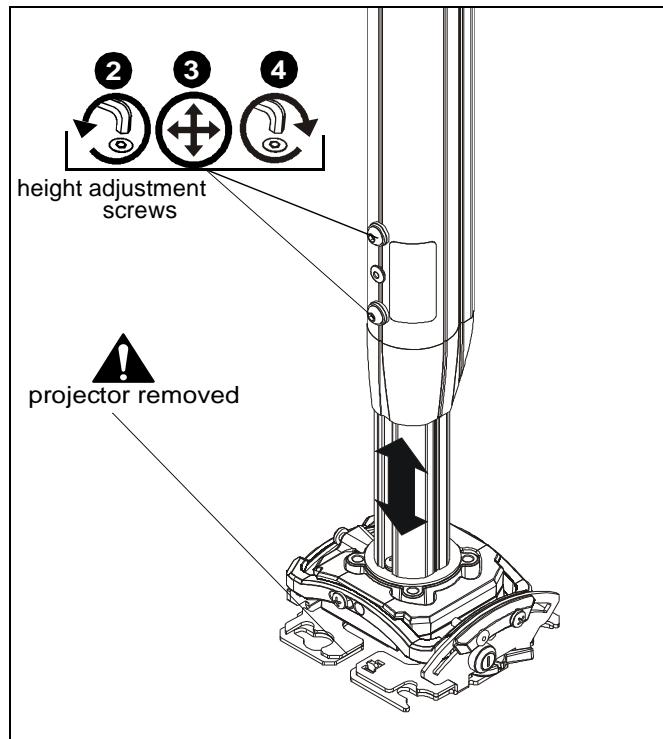

Figure 20
2. Loosen height adjustment screws. (See Figure 20)
3. While supporting the weight of the projector mount, adjust height as desired. (See Figure 20)
4. Tighten height adjustment screws. (See Figure 20)